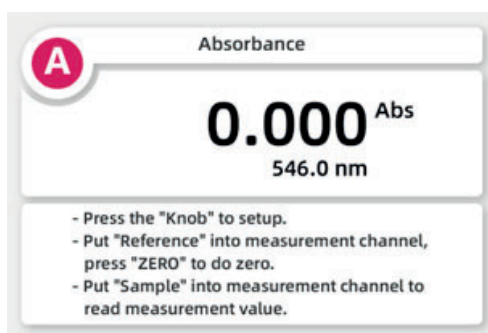

Fig. 6-1 Absorbance measurement
- On the main screen, turn the knob to the “Absorbance” and press “**ENTER**” to enter (Figure 6-1).